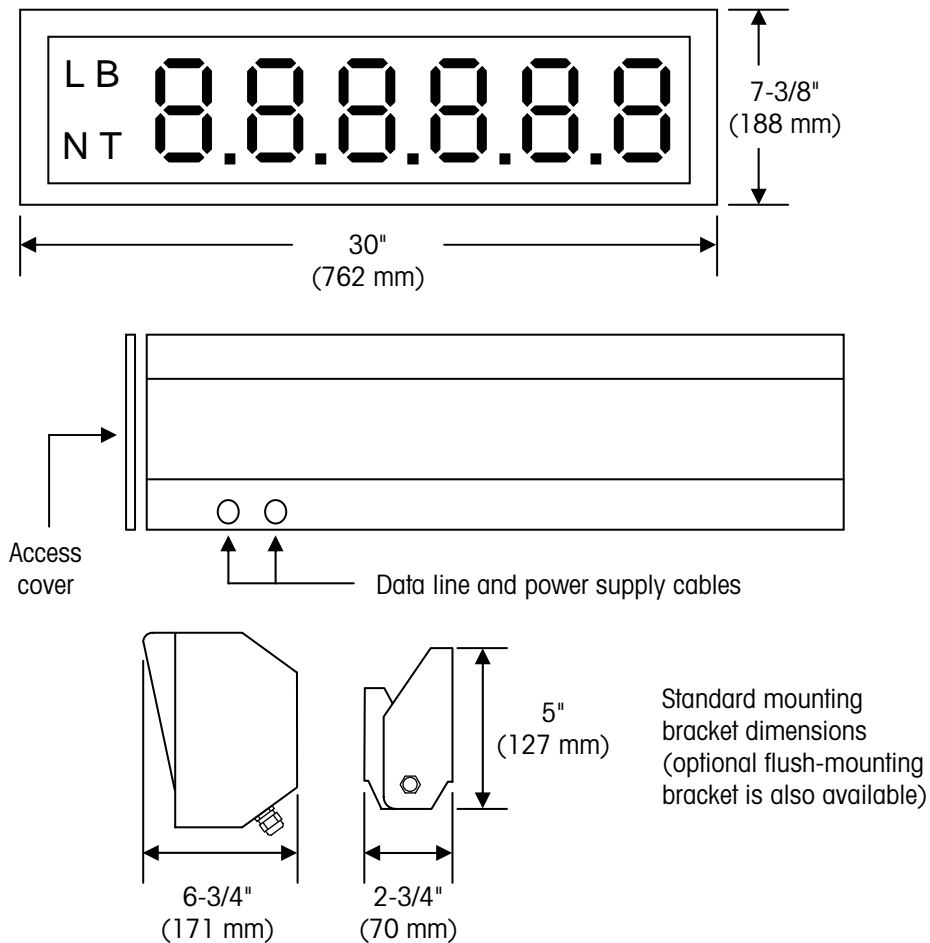

Figure 1-1: Scoreboard Dimensions
The scoreboard's enclosure is made of a tempered aluminum alloy with a polyester powder coating. The dimensions are shown in Figure 1-1.
1. Use a screwdriver to remove the access cover located at the end of the scoreboard closest to the power supply cable and data line cable (see Figure 1-1).